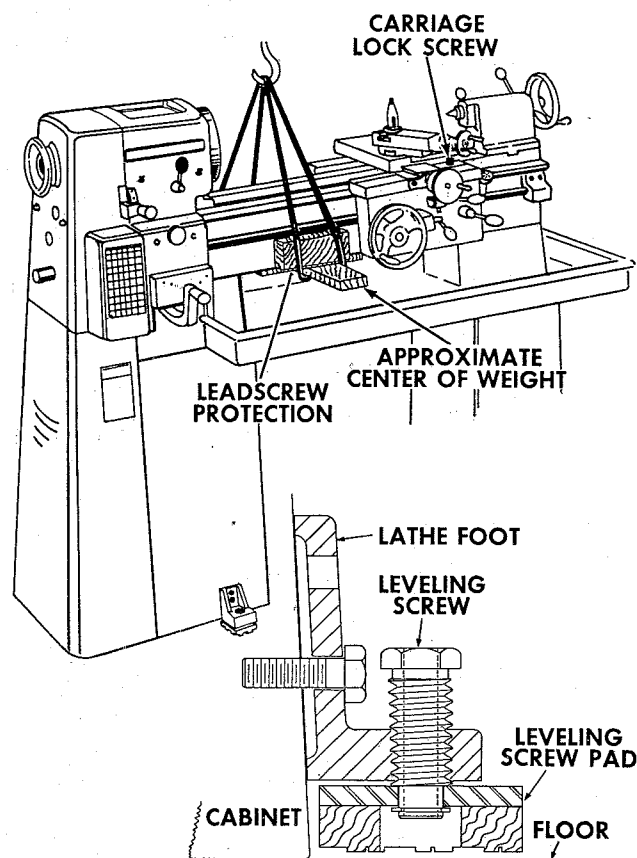

Figure 1
**CAUTION:** DO NOT LOWER LEVELING SCREW PADS UNTIL LATHE IS READY TO BE LEVELED -- refer to figure 1.
When using a sling -- clean bed ways, move tailstock to the right-hand end of the bed and lock it in place. To protect lead screw and bed, place a 3/4" thick hardwood board under approximate center of weight load, insert sling as shown in figure 1, and raise machine about one-inch off floor. Make any necessary adjustments for balance by moving carriage along bed. -- Before moving carriage, loosen lock screw -- located on top right side of the carriage.